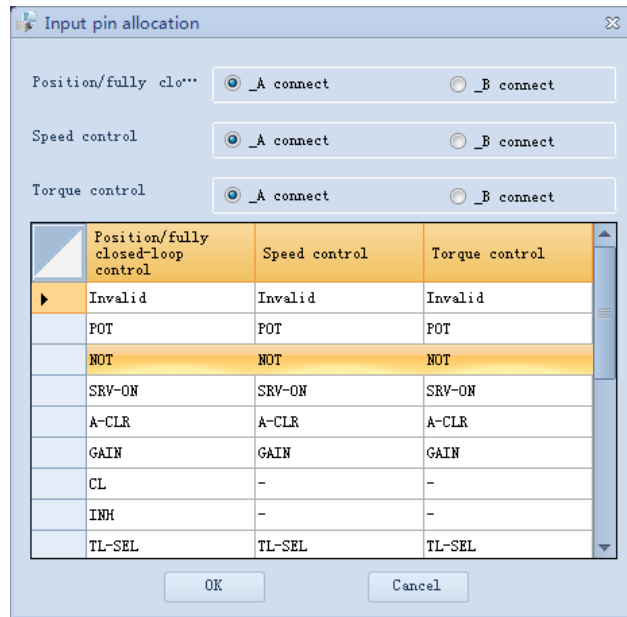
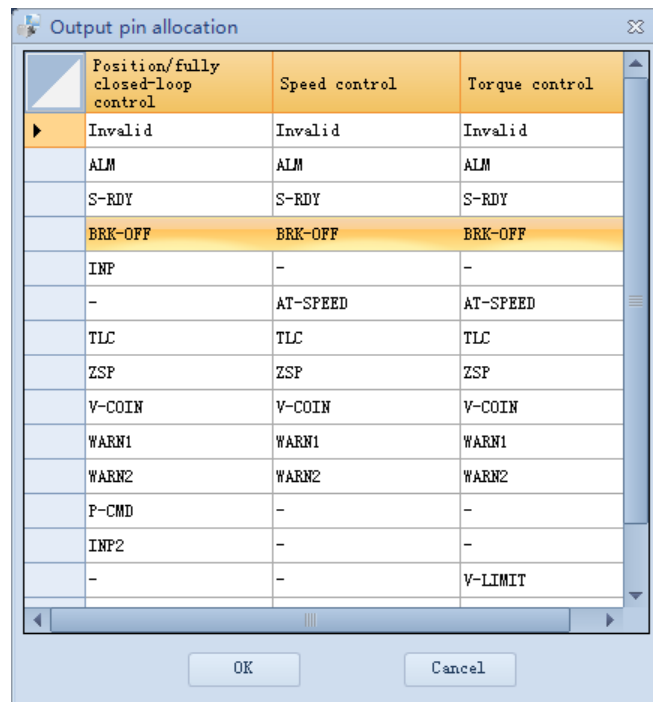

Fig. 3-31 Input pin allocation
Fig. 3-32 Output pin allocation
- 2) “Input pin allocation” dialog box and “Output pin allocation” dialog box will pop up. See Fig. 3-31 and Fig. 3-32 respectively.